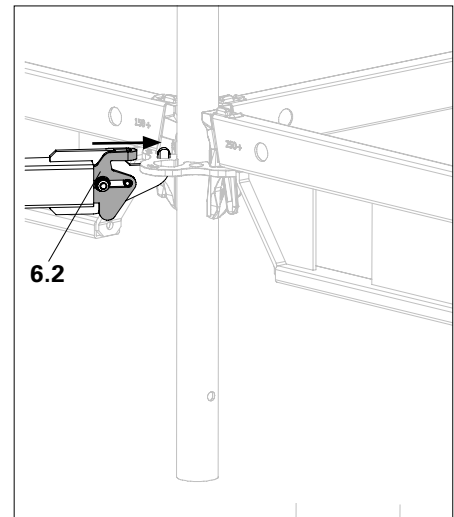

Fig. A8.04
3. Push the slider (6.2) of the horizontal brace forwards. (Fig. A8.04)